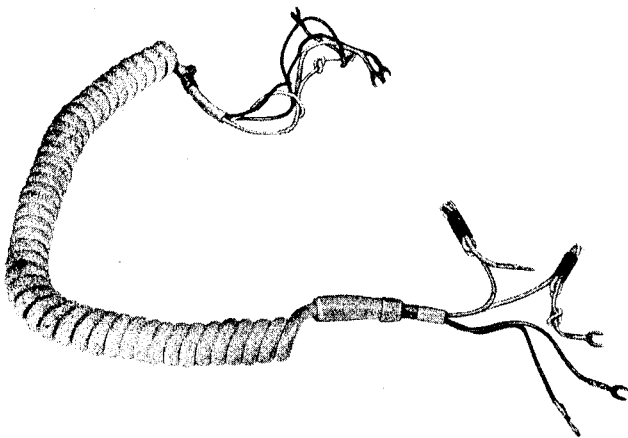

Fig. 5 — H4CJ Cord, Modified
(2) Tone out and identify one white conductor. For identifying purposes, loose knots may be tied in each end of this conductor, designating it green. The other white conductor then becomes yellow.
(3) Loop and tie or tape the excess length of white conductors to approximate length of red and black conductors (Fig. 5).
(4) Insert conductors in transmitter bowl carefully so as not to disrupt the printed board circuit.